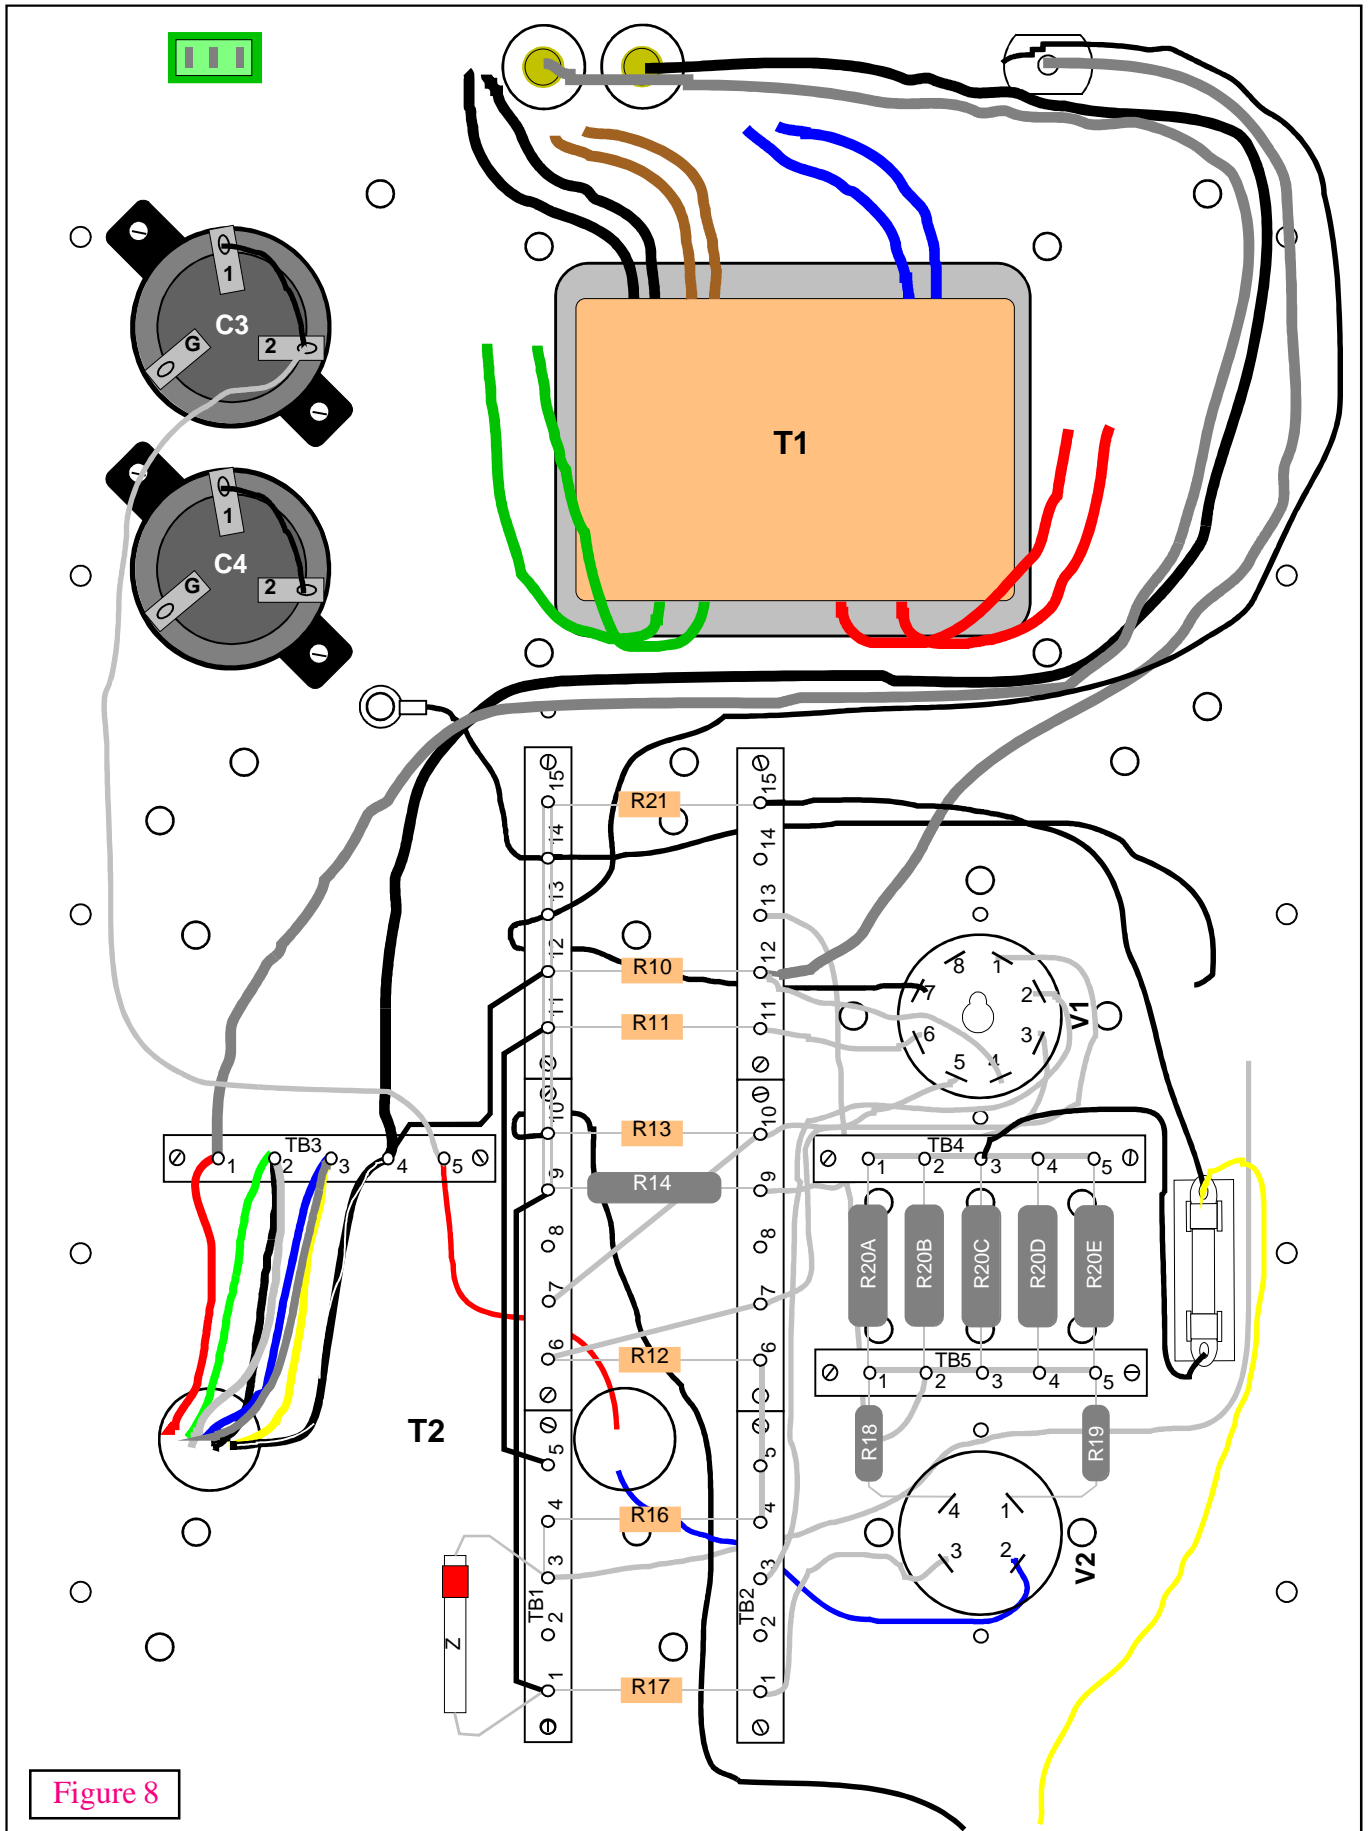

Figure 8
6) Refer to figure 8 for the following steps.
Cut a piece of the black 18awg hookup wire 6 inches in length, route as shown in figure 8 and solder one end to TB1-14. Leave the other end unterminated.
Position R10 as shown in figure 8 and solder one lead to TB1-12 and the other lead to TB2-12.
Position R11 as shown in figure 8 and solder one lead to TB1-11 and the other lead to TB2-11.
Position R12 as shown in figure 8 and solder one lead to TB1-6 and the other lead to TB2-6.
Position R13 as shown in figure 8 and solder one lead to TB1-10 and the other lead to TB2-10.
Position R14 as shown in figure 8 and solder one lead to TB1-9 and the other lead to TB2-9.
Position R16 as shown in figure 8 and solder one lead to both TB1-3 and TB1-4 and the other lead to TB2-4.
Position R17 as shown in figure 8 and solder one lead to TB1-1 and the other lead to TB2-1.
Position R18 as shown in figure 8 and solder one lead to TB5-1 and the other lead to V2-4.
Position R19 as shown in figure 8 and solder one lead to TB5-5 and the other lead to V2-1.
R20 consists of five resistors connected in parallel. Locate the five 3.6K resistors and solder them as shown in figure 8. There should be one resistor soldered between TB4-1 and TB5-1, TB4-2 and TB5-2, TB4-3 and TB5-3, TB4-4 and TB5-4, and TB4-5 and TB5-5.
Position R21 as shown in figure 8 and solder one lead to TB1-15 and the other lead to TB2-15.
Cut a piece of yellow wire 8 inches in length and solder one end to TB4-3. Route as shown in figure 8 and leave the other end unterminated. Cut a piece of black wire 10 inches in length and solder one end to TB1-10. Route as shown in figure 8 and leave the other end unterminated.
Position Z as shown in figure 8 and solder the lead with the red band to TB1-3 and the other lead to TB1-1.